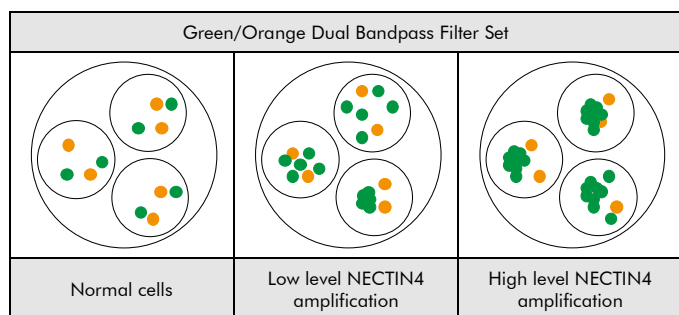

Fig. 2: Expected results in normal and aberrant nuclei
**Normal situation:** In interphases of normal cells or cells without an amplification involving the NECTIN4 gene region, two green signals and two orange signals appear (see Fig. 2).
**Aberrant situation:** In cells with an amplification of the NECTIN4 gene region, an increased number of green signals or green signal clusters will be observed (see Fig. 2).